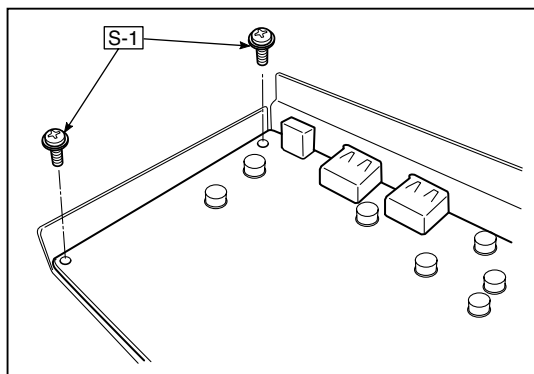

Fig.4
4.Remove the "S-1" screw shown in the figure 4 and then remove the Main Board Assy from the Main Board Shield.